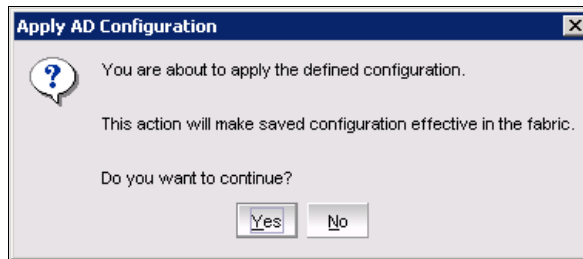

Figure 8-44 Apply AD Confirmation
6. Click **Yes** in the Apply AD Confirmation dialog box, Figure 8-44.